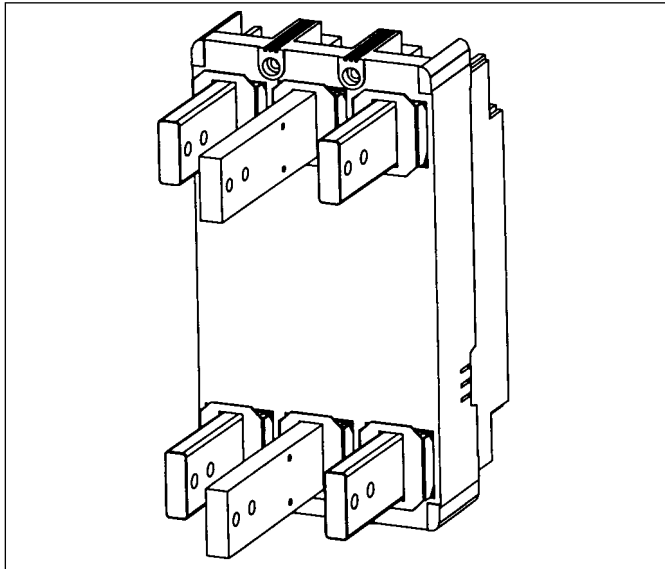

Figure 2-4 1600 Amp Rear Connectors and barriers installed (required for 1600 Amp Rear Connect breakers and molded case switches)
- c. Install the barriers, covering the ends of the hardware and connectors. Position the barriers so that the flaps are firmly set between the connectors and the edge of the base molding, (Figure 2-4).